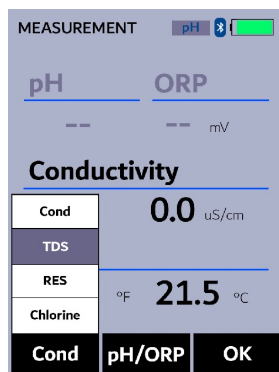

Figure 9. Highlight TDS measurement
2. Press **Cond** () as needed to highlight **TDS** in the selection menu (Figure 9).